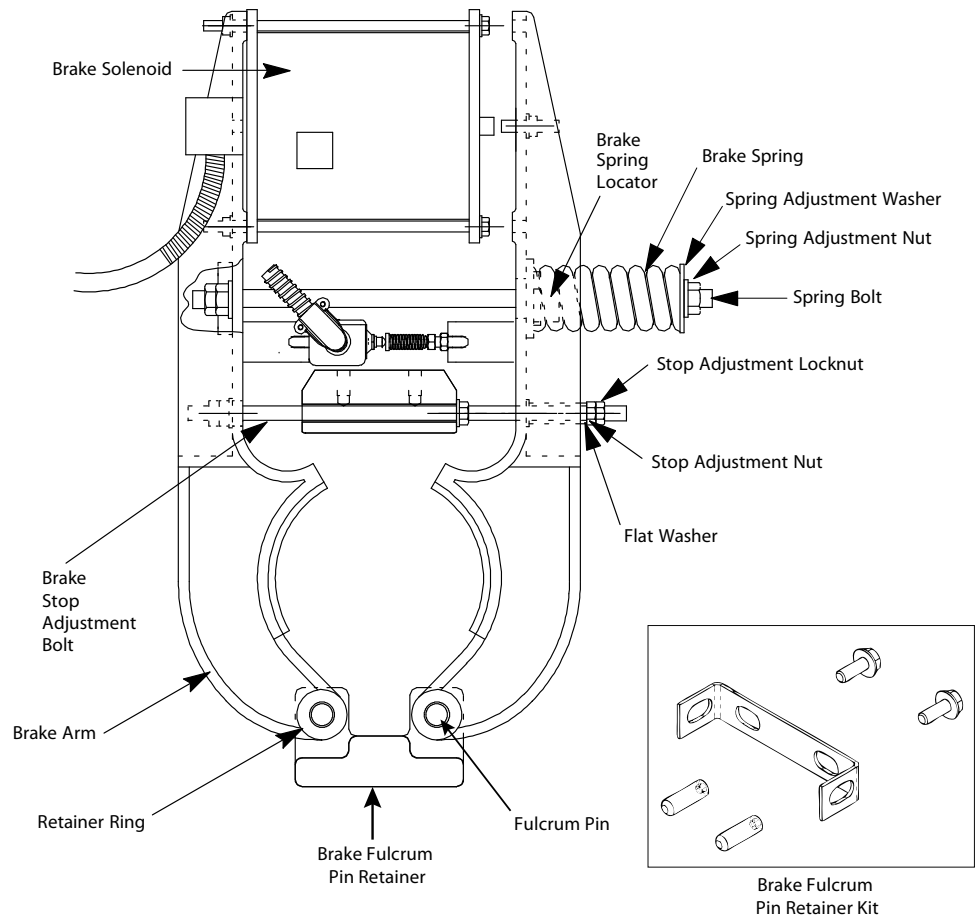

Figure 30 - Single Solenoid Brake Assembly
3. Remove the spring adjustment nut and washer, the brake spring, the spring locator, and the spring bolt. See Figure 30 on page 40 for all steps in this procedure.